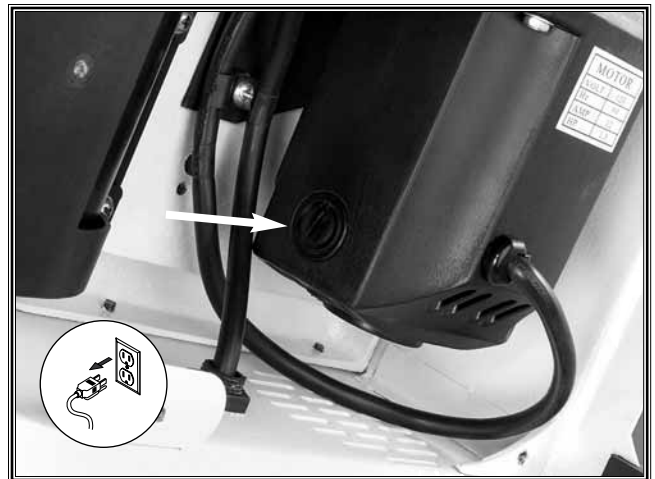

Figure 45. Motor brush caps.
3. Using a flat-head screwdriver, remove the motor brush caps (**Figure 45**).